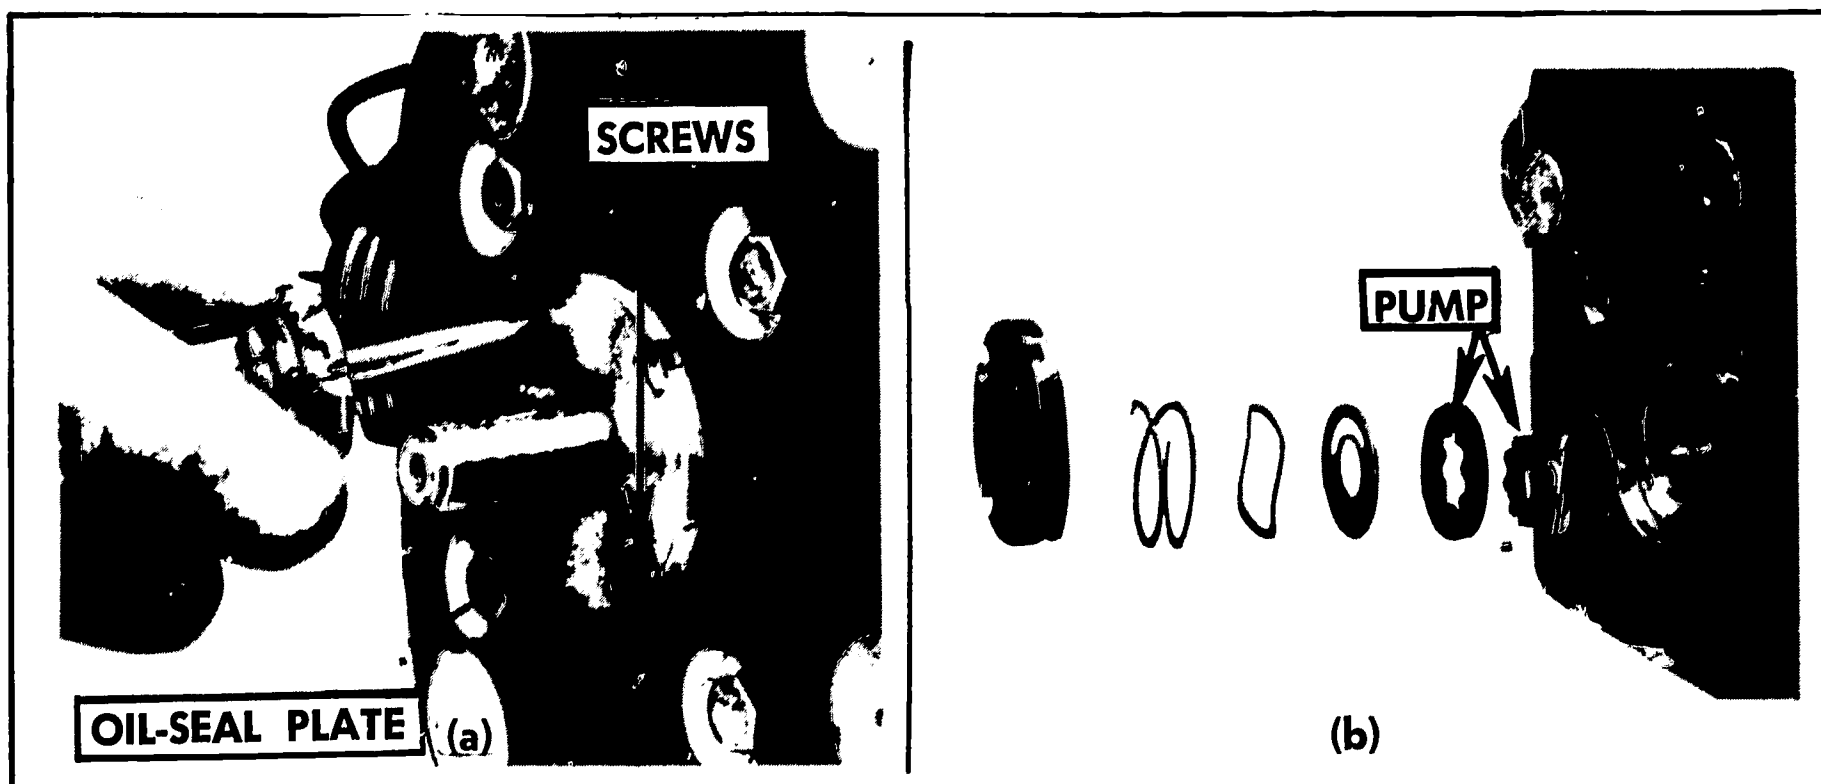

FIGURE 296. Oil-seal plate and crankshaft-driven gear-type oil pump. (a) Removing the oil seal. (b) Oil seal plate-and-pump assembly.
- **Driving gear-type oil pump** on some engines (Figure 296).